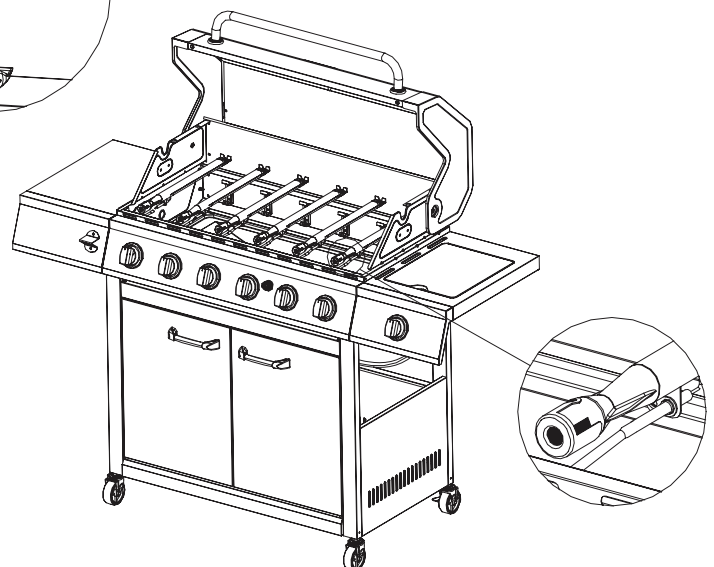

Figure 2
6. Detach ignition wire from electrode in Figure 2.